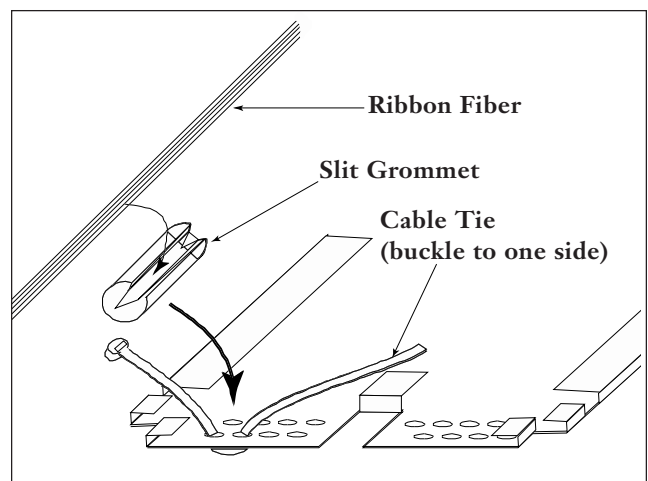

Figure 7
8.1 Ribbon fibers are generally placed in a piece of slit grommet and secured with a cable tie threaded through holes in the tray (Figure 7). Position the cable tie buckles inside the tray and to one side of the slit grommets to avoid interference with the cover.